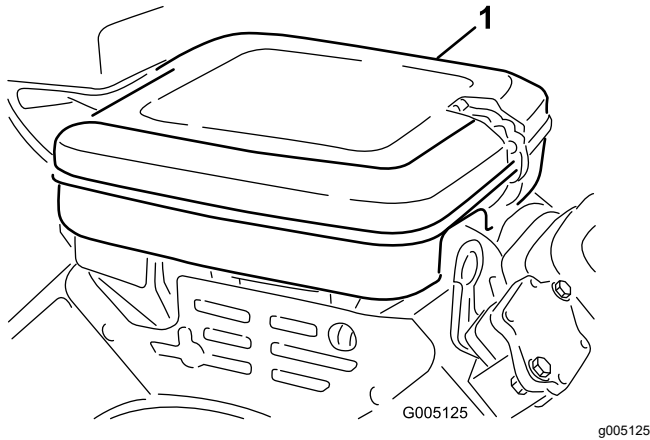

Figure 28
1. Clean the air-cleaner cover (Figure 28).